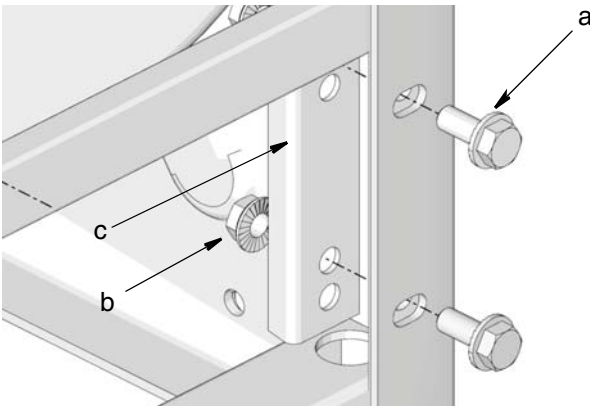

FIG. 4
2. Remove screws (a), nuts (b) and wear plate (c) from reel frame. Discard these parts, you will not need them for reassembly (FIG. 4).